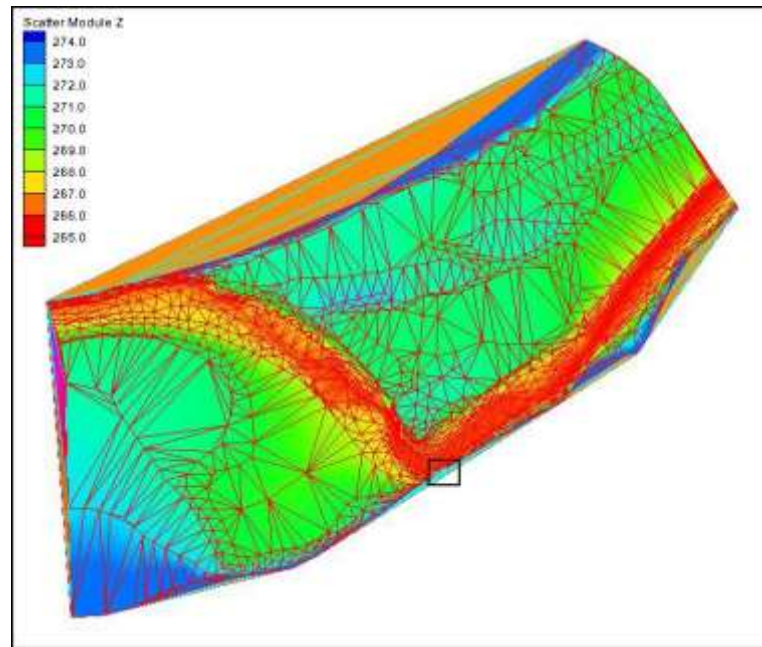

Figure 2 Zoom area
4. Zoom in to the bottom of the dataset as shown in Figure 2.